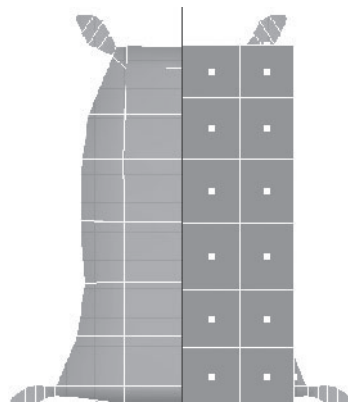

FIGURE 3.60 Half of the sack.
28. Press the Delete key. You should have only half of the sack. Because the sack is symmetrical, you can work on half of the model, as shown in Figure 3.60 and later on in the modeling process mirror it,.